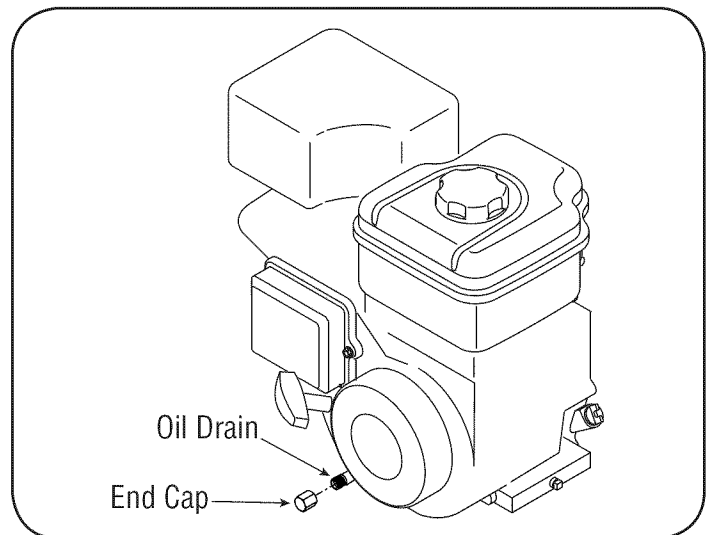

Figure 13
3. Remove oil drain end cap located at the base of the engine, and drain oil into an appropriate receptacle. See Figure 13.